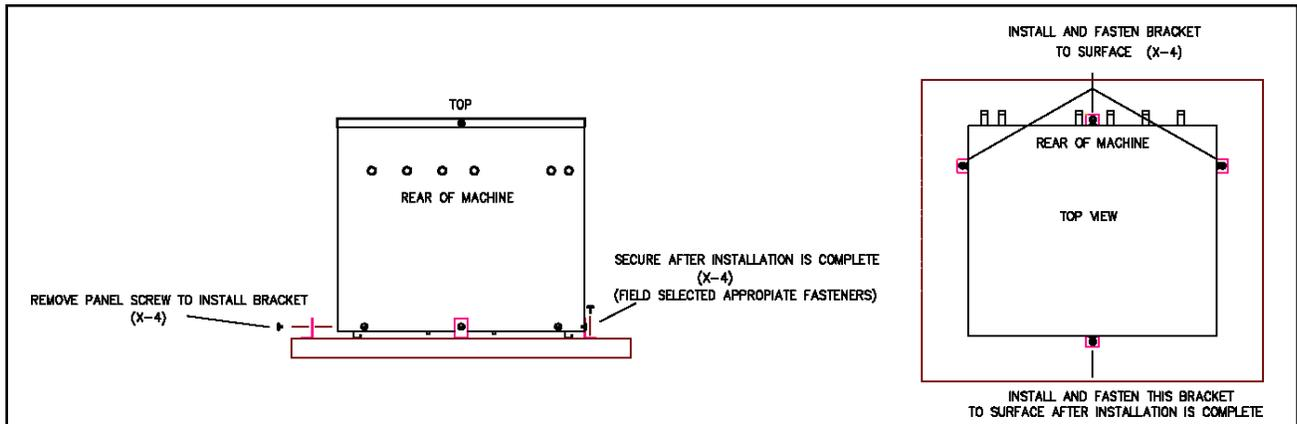

Figure 2. Compressor Unit Bracket Installation
- Total Green Mfg. compressor units may be located inside or outside. If outside, place compressor unit on a standard HVAC outdoor unit pad. If inside, place it on a level, hard surface. If the compressor unit is to be fastened down, see Figure 2 for bracket installation.